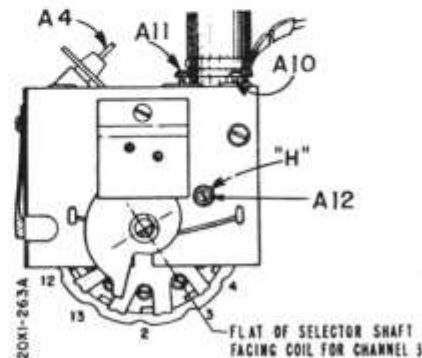

Figure 32. Front View of Tuner.
- Set Sharp Tuning control at half rotation by rotating it approximately 150° as shown in figure 32.